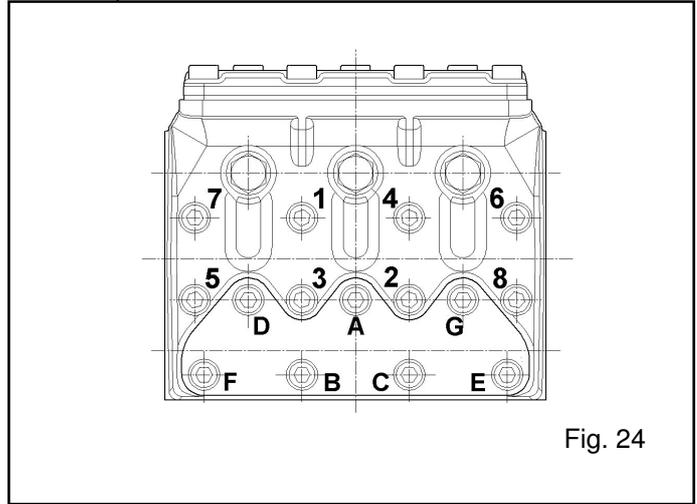

Fig. 24
D) To reassemble the valves proceed the other way round ,and tighten the cover screws with a torque wrench. Table on page 17 contains the screw tightening torque values and fig. 24 indicates the sequence.
** The valve plate must be tightened following the sequence as indicated on fig. 24.
*** The fluid end screws must be tightened in 2 periods following the sequence indicated by fig. 24.